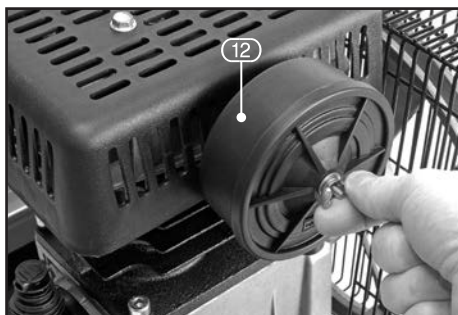

FIG.4
8.4 FITTING THE AIR FILTER – FIG. 4